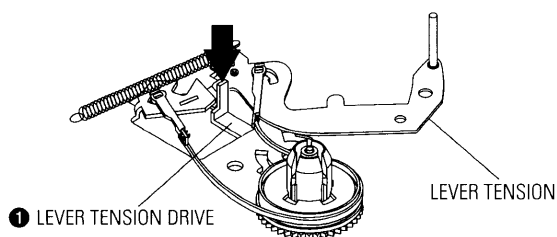

Fig. 5-14
- 2) Push the lever tension drive ① in the direction of arrow. (See Fig. 5-14)